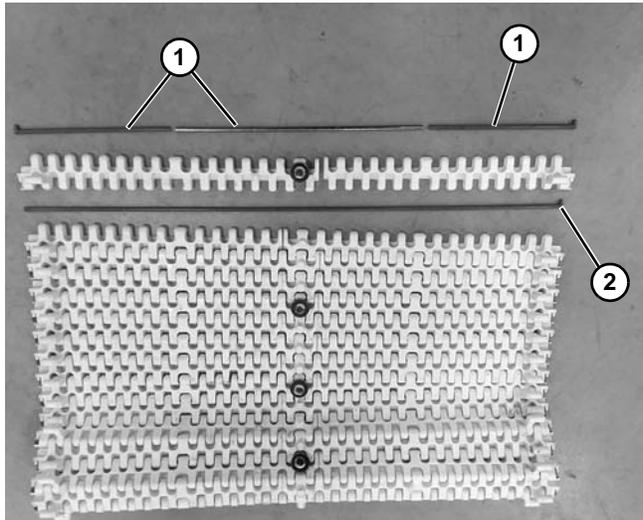

Figure 26
On 610 mm wide conveyors, DO NOT remove rods located at the bearing. These links are made up of 3 short rods (Figure 26, item 1), not a single piece rod (Figure 26, item 2).